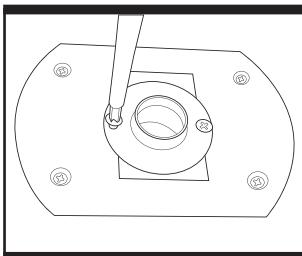

Fig. 11
8. USING THE GUIDE BUSH (Fig. 11)